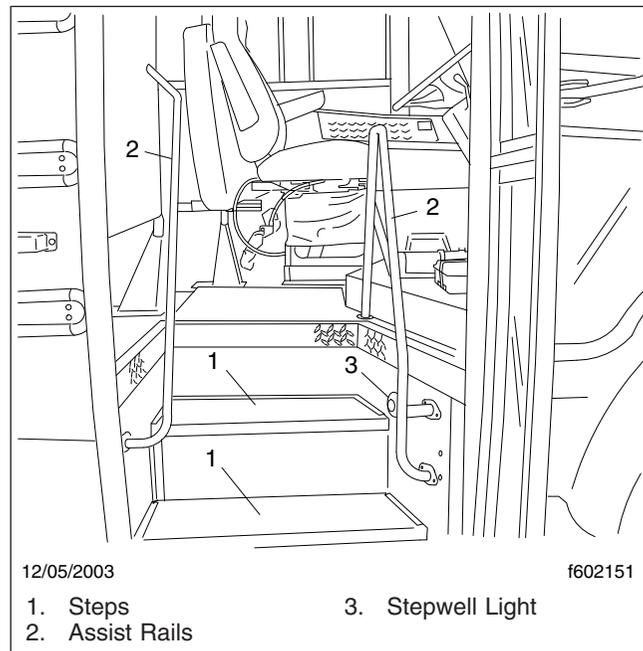

Fig. 2.2, Bus Entry and Exit
A stepwell light is located on the bottom right-hand side of the entry steps. See Fig. 2.2.
1. Facing the steps, grasp the assist rail on either side of the steps. See Fig. 2.2. Reach up as far as is comfortable.